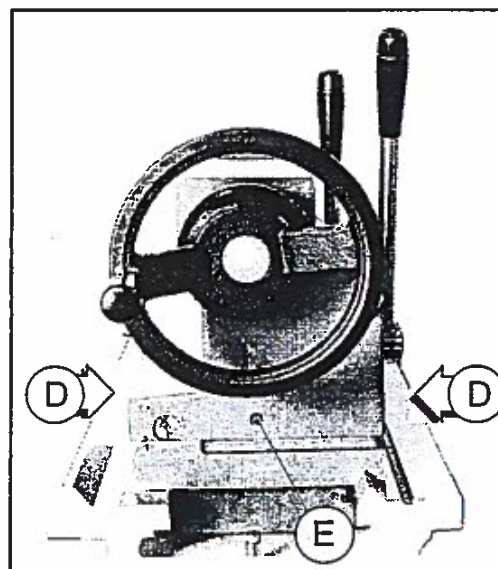

Fig.14
The tailstock can be set over for the production of shallow tapers or for re-alignment. Set over adjustment is achieved by unclamping tailstock lever (A) and nut. Slacken rear location screw (E) one turn (Fig. 14). Adjust screws (D) at each side of base by slackening one and tightening the other to laterally move tailstock across the base.